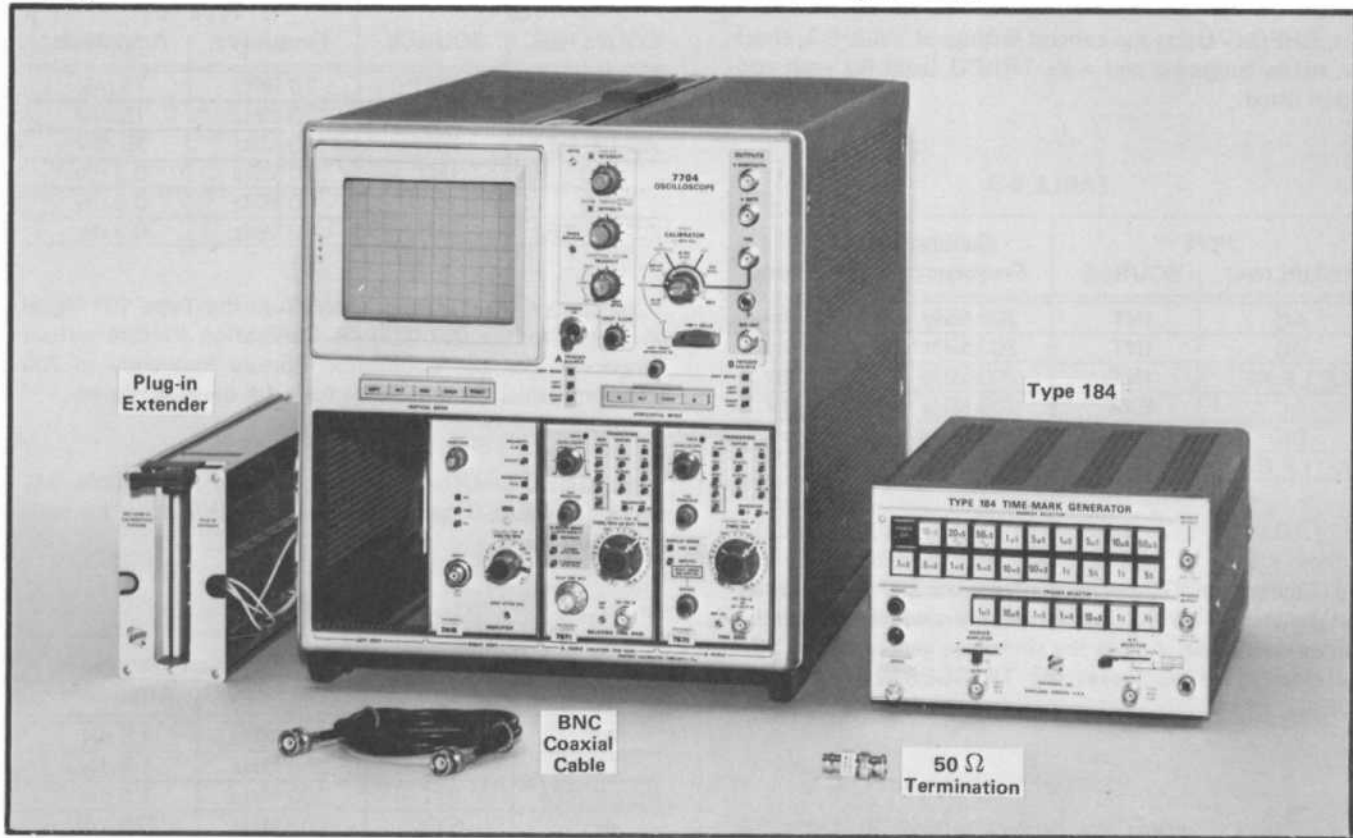

Fig. 5-6. Test equipment required for steps 13 through 25.
- Test equipment required is shown in Fig. 5-6.